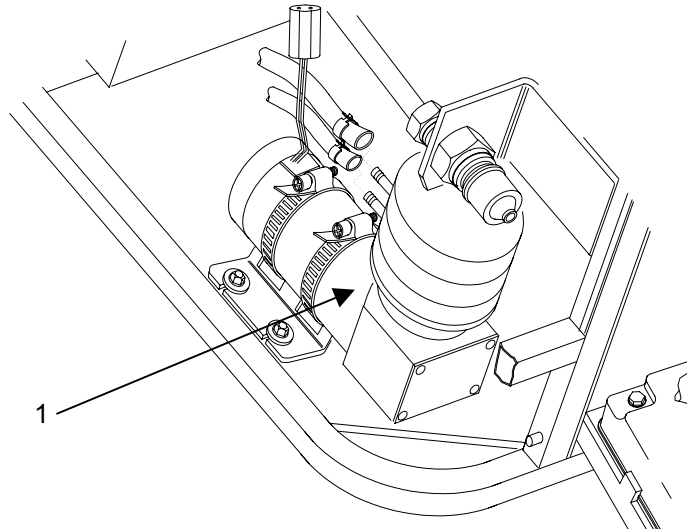

Figure 1. Inspect the Compressor Assembly
Inspect compressor assembly (**figure 1, item 1**) for damage, excessive rust or contamination to the compressor housing, mounting plate, hose clamps, vibration grommets, or mounting hardware. Also inspect the compressor wires for frayed insulation or exposed wires.